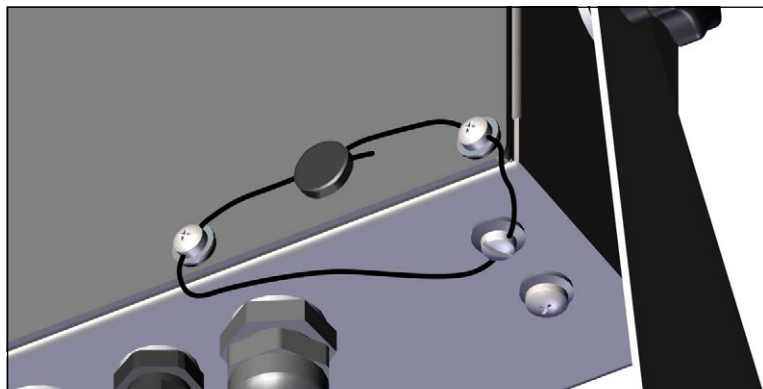

Figure 2-13. Sealing the Indicator – No Access
3. Navigate the sealing wire through the fillister head screws on the backplate and the fillister head screw at the bottom of the enclosure, as shown in Figure 2-13.